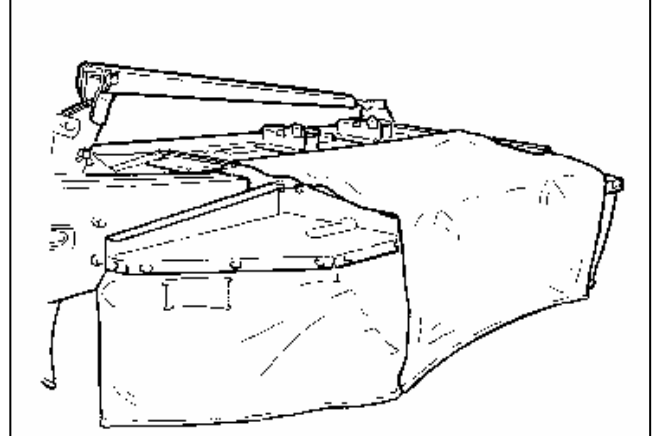

Fig. 34
- FIG. 34**      Mounting of canvas after dismounting the conditioner.